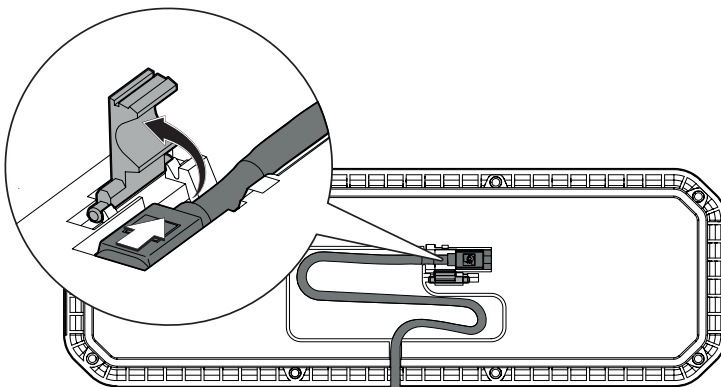

Figure 47. Disconnecting the connector
1. Raise the connector latch to pull out the connector. See Figure 47.